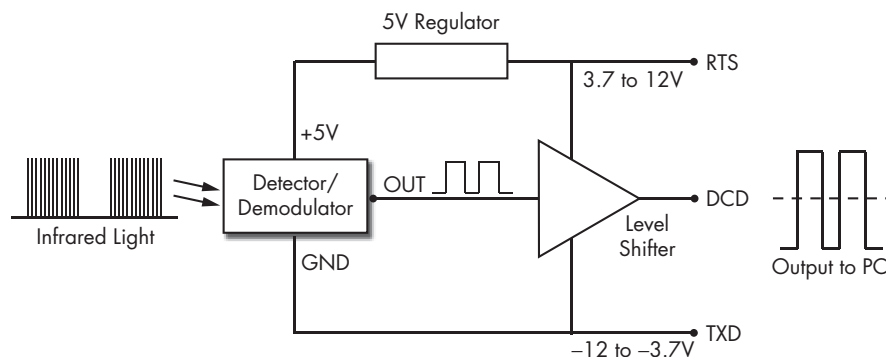

Figure 12-9: A block diagram for a simple IR receiver
3.3V). Thus, if you want to use a serial port input, you will need additional circuitry to provide the required voltage for the detector and to shift the detector output to valid serial port levels. Figure 12-9 illustrates this kind of circuit.